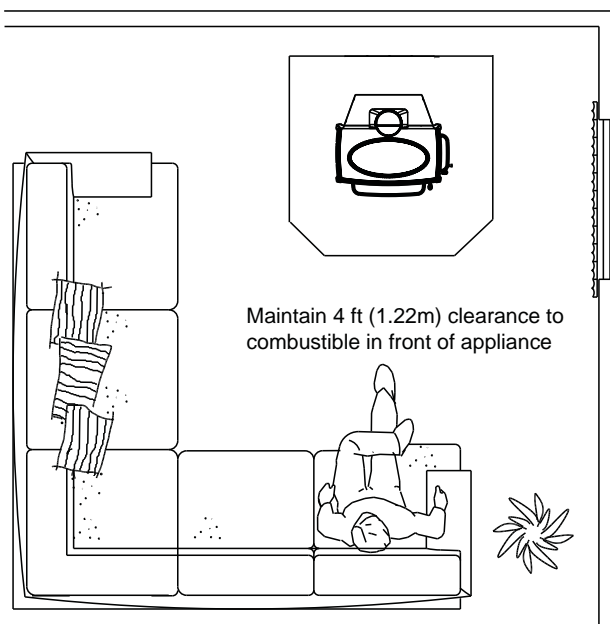

Figure 30.1 - Clear Space
- Do NOT place combustible objects within 4 ft (1.2 m) of the front of fireplace. **Figure 30.1.**